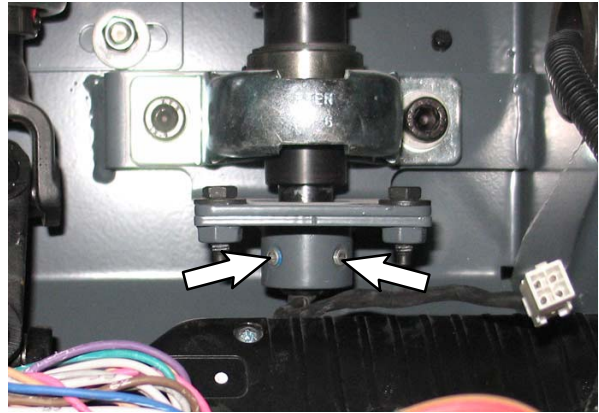
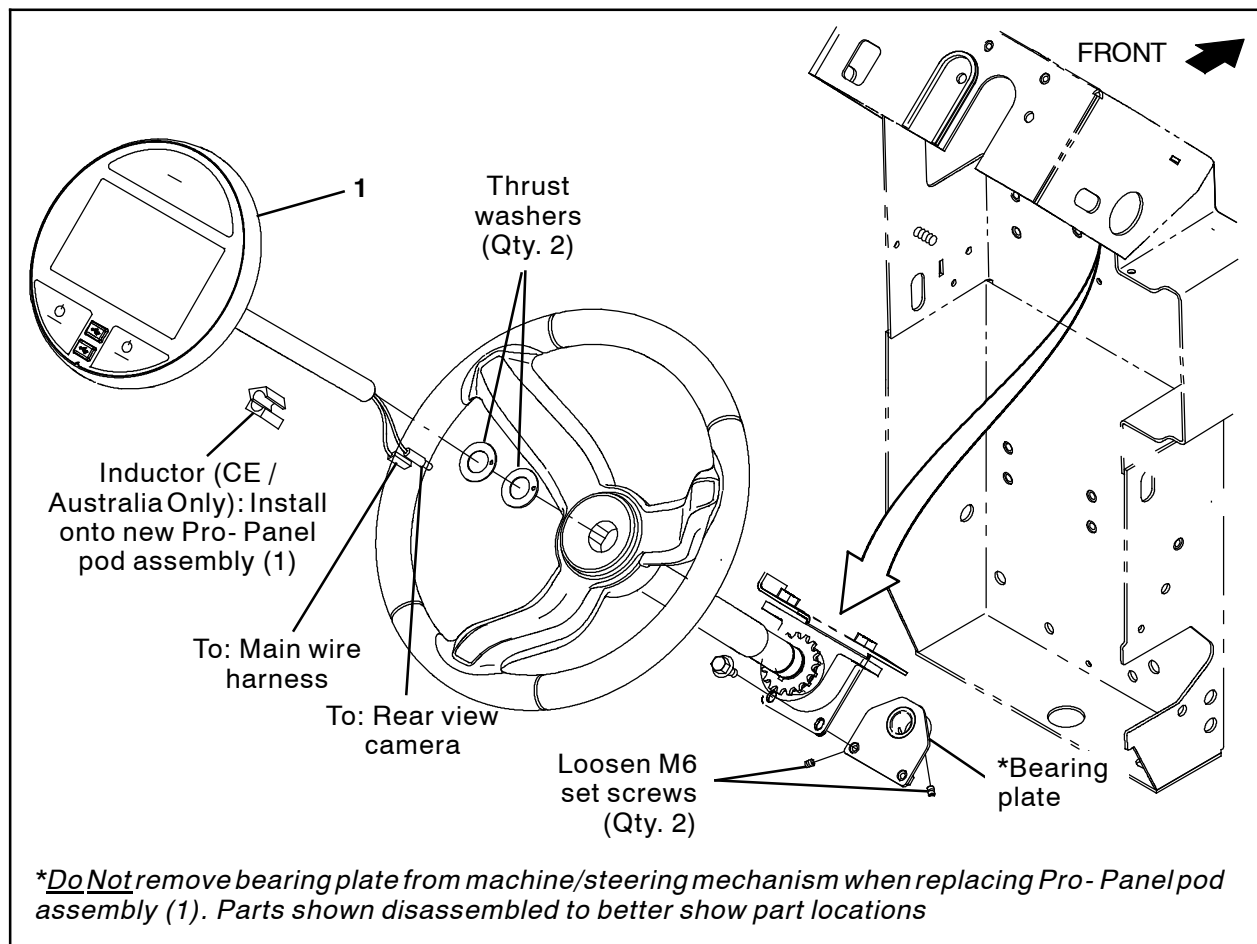

FIG. 5
FIG. 6
1. Disconnect the main wire harness and rear view camera cable from the Pro- Panel pod assembly. (Fig. 6)
2. Loosen the M6 set screws securing the Pro- Panel pod assembly in the bearing plate. (Fig. 5/Fig. 6)
3. Pull the Pro- Panel pod assembly from the steering mechanism. (Fig. 6)
4. Remove both thrust washers from the Pro- Panel pod assembly. Set the thrust washers aside. Discard the Pro- Panel pod assembly. (Fig. 6)
5. Slide the thrust washers onto the new Pro- Panel pod assembly (1). (Fig. 6)
6. Carefully insert the Pro- Panel pod assembly (1) into the steering mechanism. **Do Not** damage cables when inserting the Pro- Panel pod into the steering mechanism. (Fig. 6)
7. Position the Pro- Panel pod assembly (1) so it is properly aligned on the steering wheel. (Fig. 6)
8. Tighten the two M6 set screws to secure the Pro- Panel pod assembly (1) inside the bearing plate. (Fig. 5/Fig. 6)
9. Connect the main wire harness and the rear view camera cable to the Pro- Panel pod assembly (1). (Fig. 6)